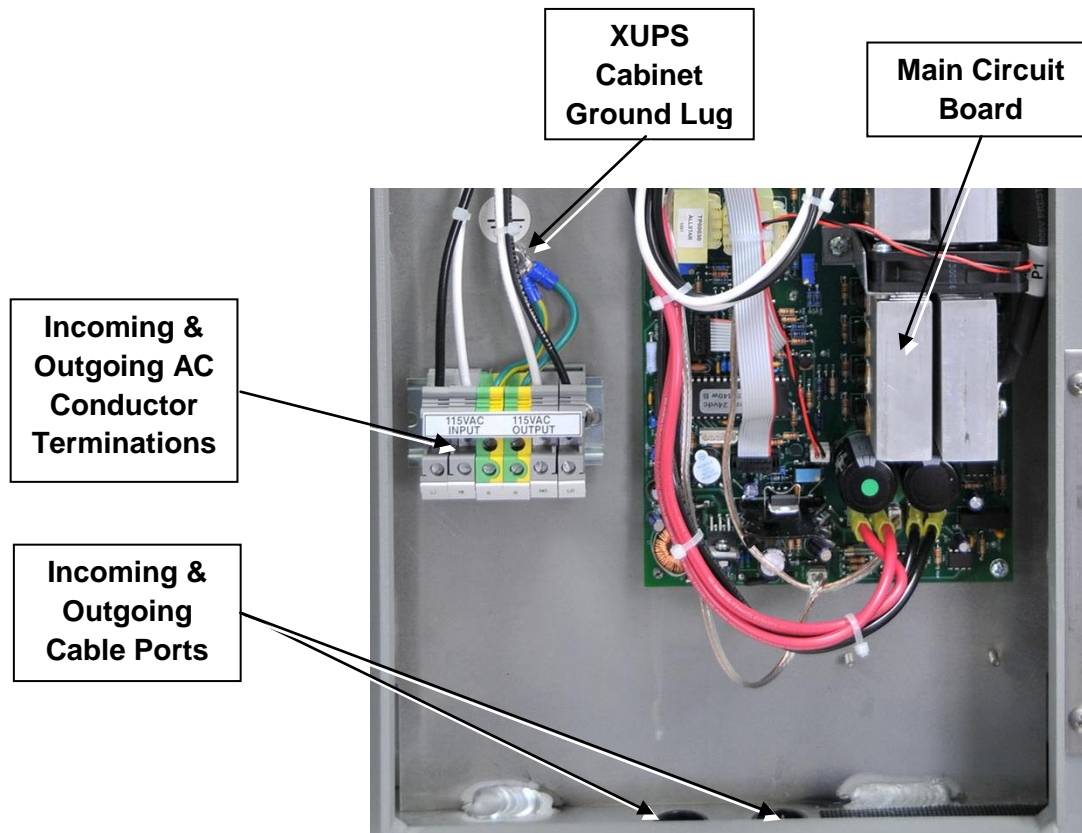

Figure 15: Incoming & Outgoing Wire Terminations
4.12 If bringing in cable through a conduit up the pole, make sure that the trade size of the conduit is ½" and not larger. Larger conduit will not fit through the cable fitting. See Figure 15 for cable entry and exit ports in the bottom of the electronic compartment.
4.15 Strip approximately 3/8" (9.52 mm) insulation from the end of each of the six (6) incoming AC wires and terminate them in the wiring terminals in the lower left side of the electronics compartment. See Figure 15.
4.16 Terminate the Incoming wires on the terminals marked as shown in Figure 15 and as follows:
4.17 Terminate the Outgoing wires on the terminals marked as shown in Figure 15 and as follows: